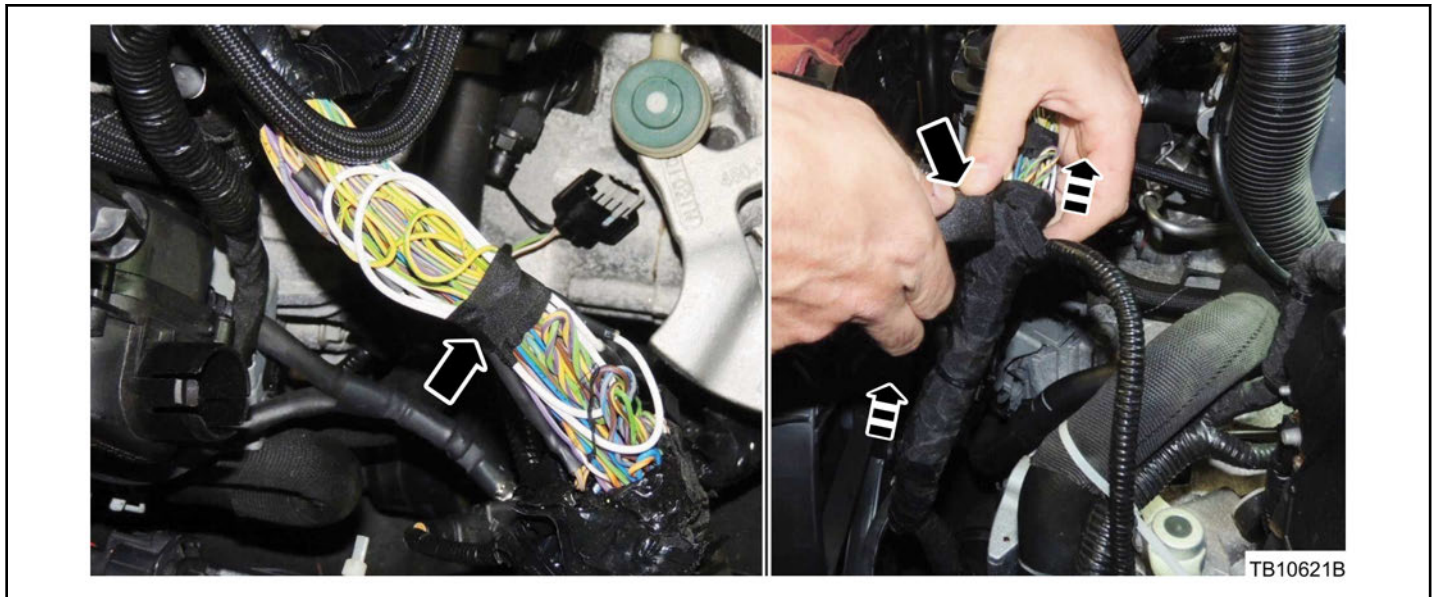

Figure 14 - Article 15-0007
- a. There is another splice with yellow/green wires in this area. Be sure the splice you repair with yellow/green wires is splice S108 having four (4) wires on one side and two (2) wires on the other.
20. Bundle the wires as shown and apply wire harness tape to the harness, starting from the bottom of the previously cut harness tape and working upward until all exposed wires are covered. (Figure 14)